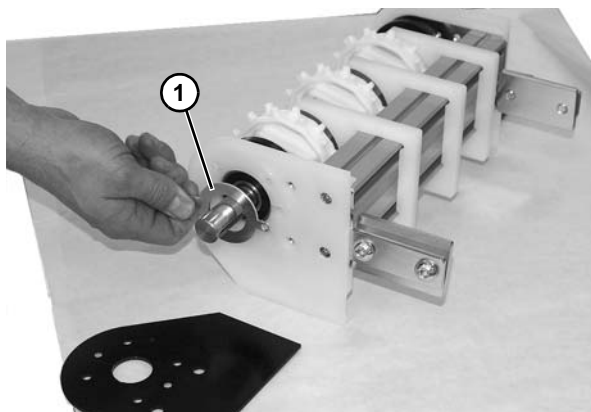

Figure 51
5. Remove bearing stop plate (Figure 51, item 1).